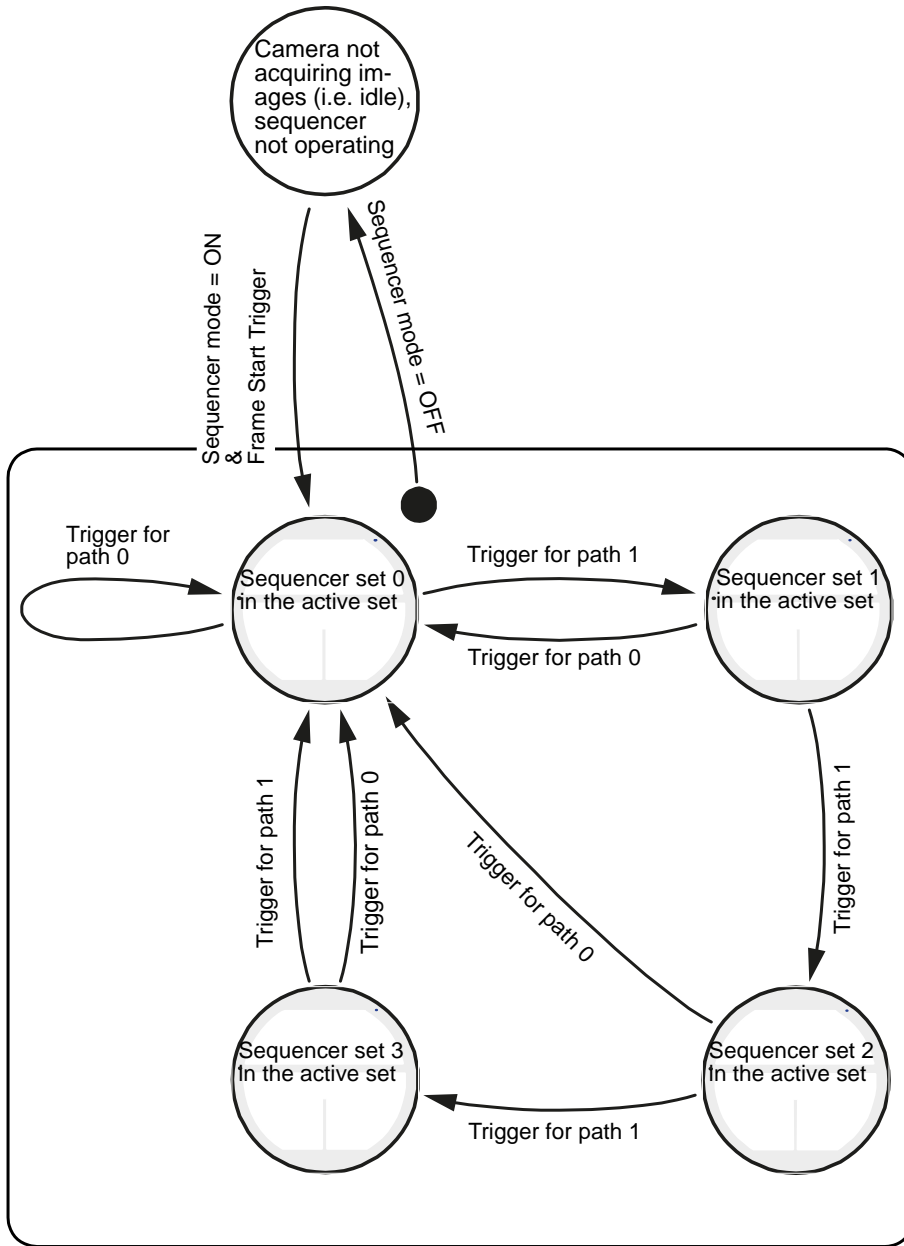

Fig. 87: State Diagram for the "Sequencer Mode" (Start and Operation; Four Sequencer Sets as an Example)
- a general overview employing a state diagram (Figure 87), and
In the state diagram (Figure 87) a total of four sequencer sets is considered. The diagram illustrates sequencer start, sequencer operation in "sequencer mode", and sequencer stop. Operation in "sequencer configuration mode" (see Section 7.7.3 on page 229) is not illustrated.